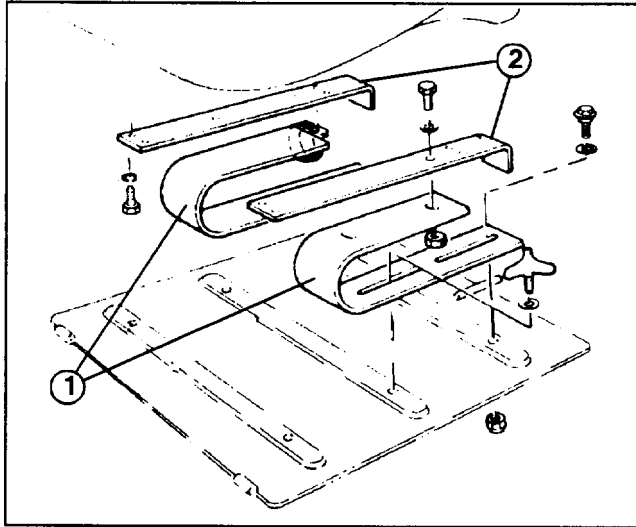

Figure 2
1. Attach "U" springs to seat mounting brackets using bolts and locknuts as shown in figure 2.
2. Secure seat mount assemblies to bottom of seat with (4) capscrews and lockwashers (Fig. 2).
5. Mount seat and spring assembly to rear holes in seat mounting plate with two shoulder bolts, small I.D. flat washers and locknuts (Fig. 2 & 5).
- 3. Shoulder bolt with washer and locknut (2)
- 4. Adjustment handle (2)
6. Secure front slot of seat springs to traction unit front mounting holes with adjustment handles and flatwashers (Fig. 2 & 5).
2. Install manual tube into R-clamps, insert manual into tube and thread cap into tube (Fig. 2). Tighten capscrews.